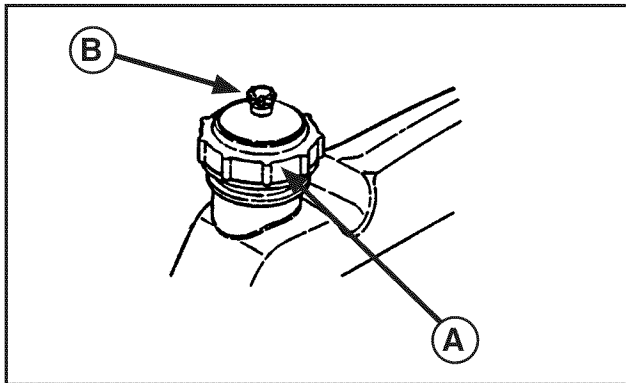

FIGURE 1
1. Add fuel to the fuel tank after pushing the machine outside where fumes can dissipate. Make sure the fuel filler cap (**A**, Figure 1) is tight, and the vent (**B**) is open after refueling. If the vent is not opened, the engine will stall.